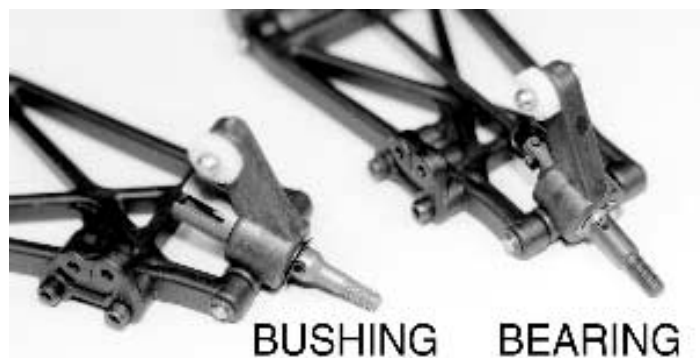

Fig. 105
spacer. Line up the pin holes in the arm and hub carrier. (4) Install the outer hinge pin through the forward pin hole of the A-arm then through the hub carrier. (5) Now place the nylon spacer between the hub carrier and the rear arm pin hole and push the pin through the spacer and rear arm pin hole. (6) Install one E-clip on each end of the hinge pin. Your completed rear arm assembly will look like fig. 105. (7) Now go back and repeat the steps to assemble the right suspension arm and hub carrier, making sure that the spacer is on the rear side of the hub carrier just like the left arm assembly. **Racer's Tip: The 1/8" spacer will allow you to change the length of the truck's wheelbase for different handling characteristics or track conditions, by moving it in front or behind the rear hub carrier. The rear arm mount is no longer position adjustable on the T2.**